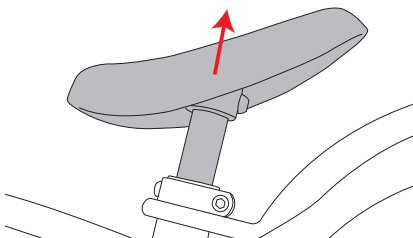

Figure 9
- Raise/lower on the seat to the desired height. See Figure 9.